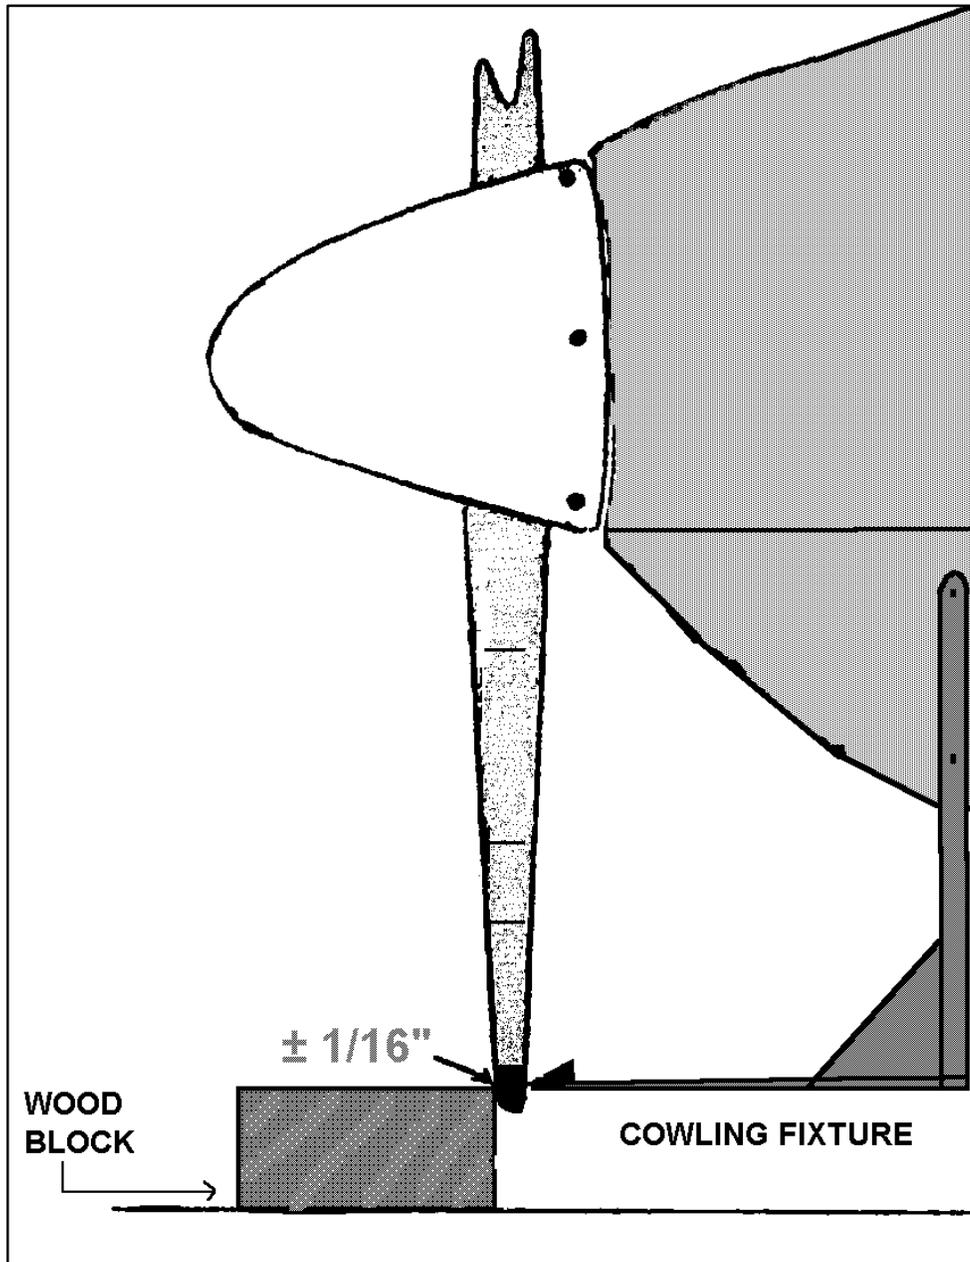

FIGURE 8-30. Propeller tracking (wood block or cowling fixture shown).
**d. Place a solid object** (e.g. a heavy wooden block that is at least a couple of inches higher off the ground than the distance between the propeller tip and the ground) next to the propeller tip so that it just touches (see figure 8-30), or attach a pointer/indicator to the cowling itself.